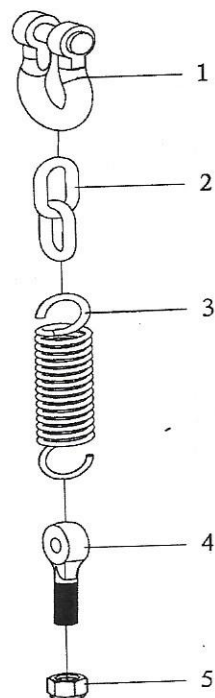

Fig. 25
22. Assembly of suspension chain (Fig 25, Table 22)